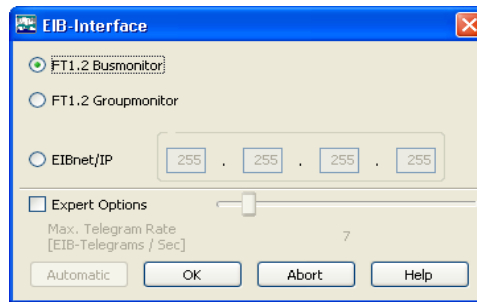

Figure 6: Configure interface
- With the telegram rate limitation (see Figure 6, the default value is seven telegrams per second), you can avoid overloading the KNX™ bus and guarantee the stable operation of your installation.